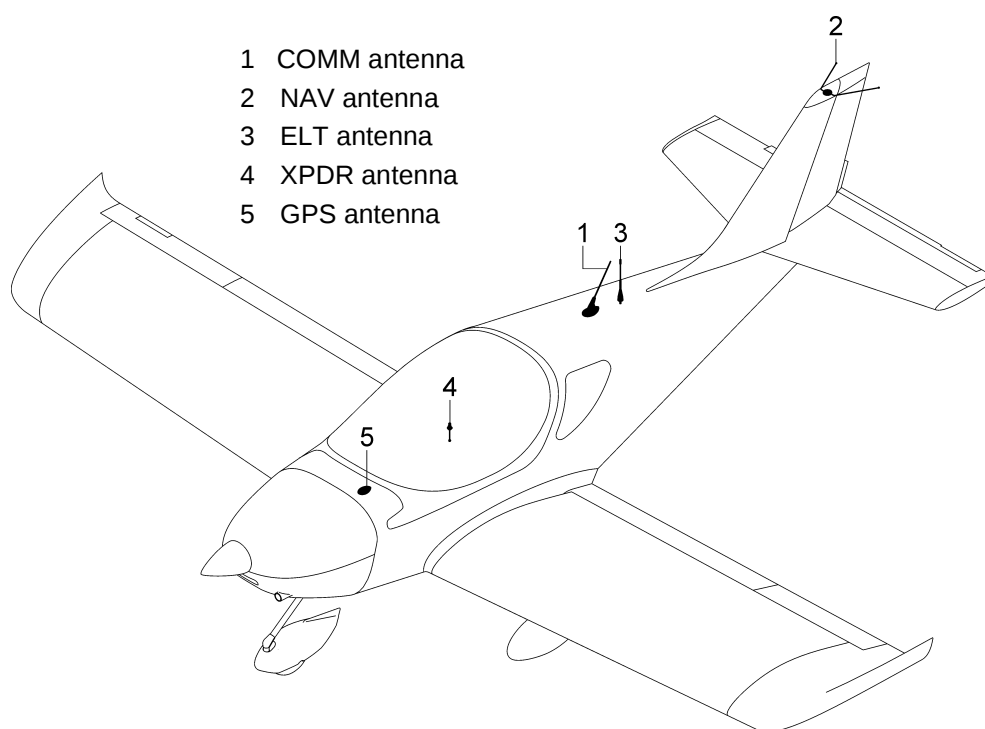

Fig. 12-23: Antenna locations
Fig. 12-23 shows the antenna locations. The COMM antenna (1) is installed on the upper part of the fuselage behind the canopy. The ELT antenna (3) is installed directly in the rear of the COMM antenna. The NAV antenna (2) is installed on the top of the fin. The transponder antenna (4) is installed on the bottom part of the fuselage. The GPS antenna (for GPSMAP 695/696 and GPS Aera 510) is attached to the upper side of the instrument panel cover; GPS antenna (5) for GTN 750 GPS / NAV / COM is installed on the upper part of the fuselage in front of canopy.